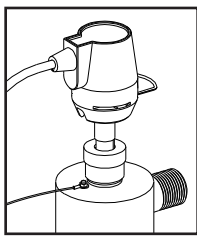
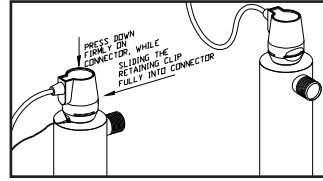

FIGURE 2D
FIGURE 2E
4. Once the lamp is fully seated on the connector, slide the connector over the retaining nut. Make sure the metal retaining ring on the connector is pulled away from the body of the connector in order that the connector may slide fully over the retaining nut. Once the connector is located fully over the retaining nut, slide the metal ring back in to lock the connector in place (Figure 2E). As this connector is keyed to the reactor chamber, make sure the notch on the connector (Figure 2D) is located over the ground lug located on the reactor chamber.